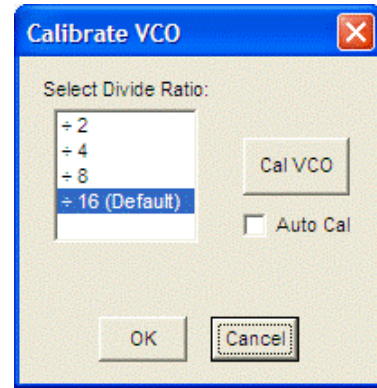

Figure 19. AD9522 VCO Calibration Window
14. Click the blinking yellow **Cal VCO** button to load the VCO calibration window. The default VCO divide ratio (16) works for all applications. Click the **Cal VCO** button in the **Calibrate VCO** window to begin calibration (see Figure 19). The PLL should now be locked and the **LD** (lock detect) LED on the left side of the board should be on.
The VCO calibration window shown in Figure 19 is accessed by clicking the **Cal VCO** button on the main window.